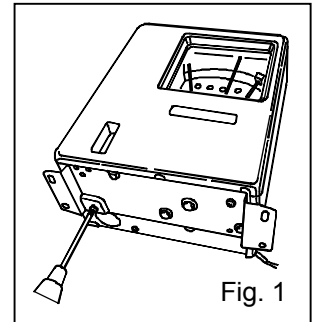

Fig. 1
1. Attach the fixture to the temperature recorder with two screws. (Fig. 1)
1. Remove four screws (shown by arrows) on the front panel off. (Fig. 1) Then take off the cover for the recorder mounting space by removing four screws.